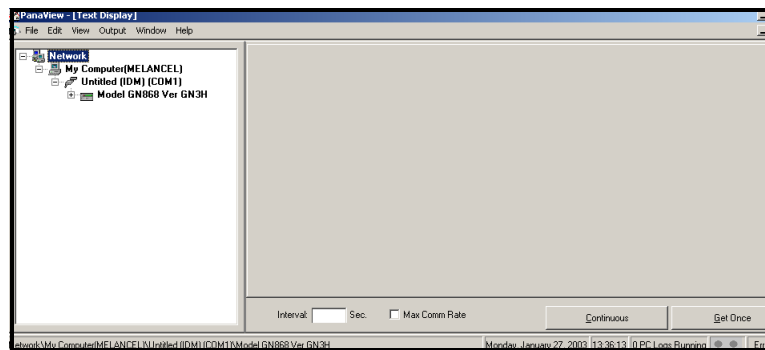

Figure 3: Text Display Window
3. Using the *Window* menu, arrange the open windows in the desired format. For this discussion, Figure 3 shows the *Text Display* window in its maximized (full-screen) size.
**Note:** Figure 3 has been compressed both vertically and horizontally for improved clarity.
5. Before actual data values can be displayed in the text pane, activate one of the following data collection modes (see Figure 3 on page 4):